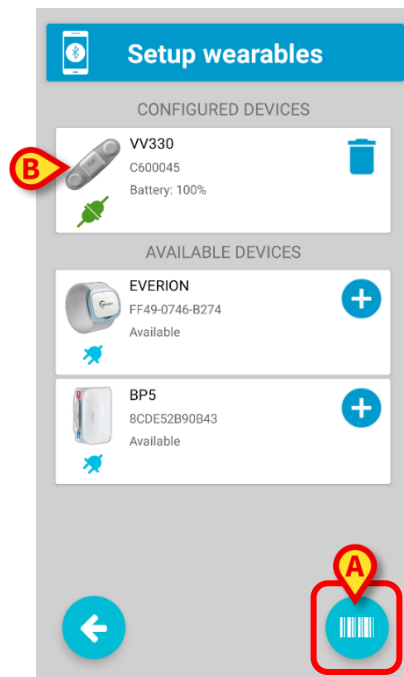

Fig 29
- Press the **Scan** button (Fig 29 **A**) to scan the barcode related to the wearable device to be paired (obtained via the procedure described above - Fig 26).
The wearable device will be paired automatically and included in the list of “Configured Devices” (Fig 29 **B**). User confirmation is required to complete the procedure.
*The barcode functionality works slightly differently on Myco3 devices. Myco3 devices are equipped with a physical “Scan” button on the side. Therefore, the “Scan” icon (Fig 29 **A**) is not displayed on Myco3 devices.*